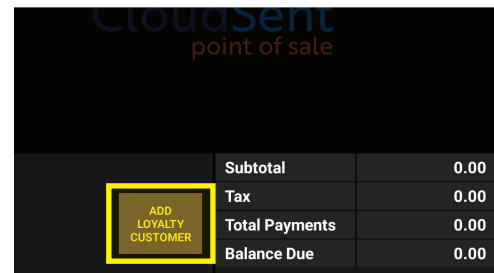

Figure 73
1. Select Add Loyalty Customer in the lower left hand side of the screen. (Figure 73).